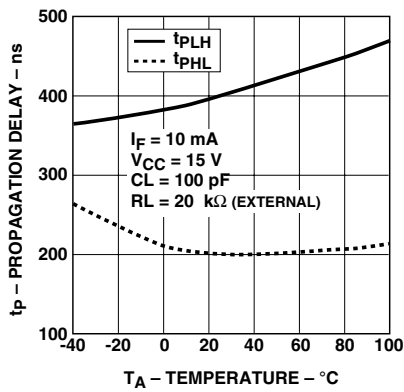

Figure 8. Propagation delay with external 20 kΩ R_L vs. temperature.
- Due to tolerance of the internal resistor, and since propagation delay is dependent on the load resistor value, performance can be improved by using an external $20 \text{ k}\Omega$ 1% load resistor. For more information on how propagation delay varies with load resistance, see Figure 8.